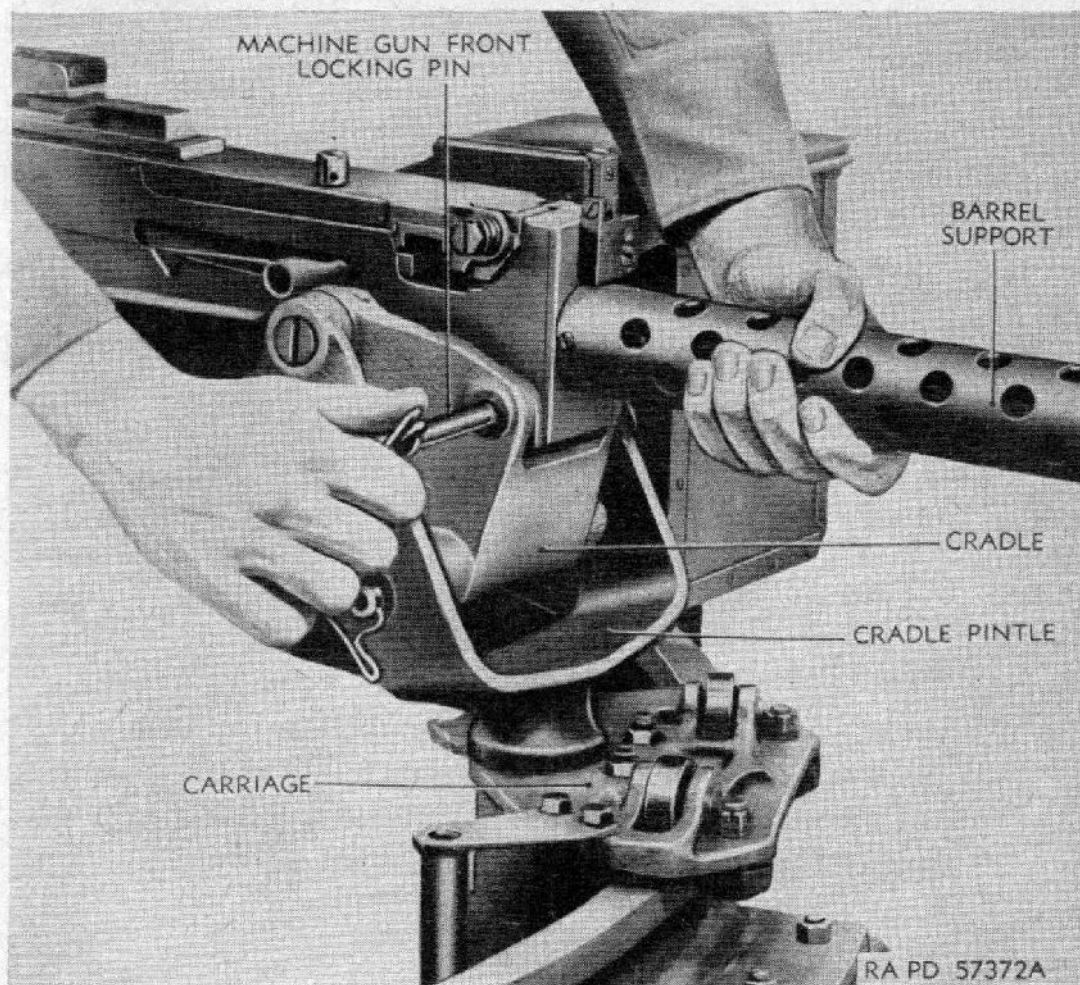

Figure 173. Securing front of machine gun to mount.
- (3) Place the machine gun on the cradle so that the front mounting holes of the machine gun and of the cradle aline. Secure the machine gun by inserting the machine gun front locking pin (fig. 173).
- (4) Swing the pivoted machine gun rear spacer forward, so that the rear mounting holes of the machine gun aline with the
- (1) Check to make certain that gun is not loaded.
- (2) Supporting the gun at the barrel support (do not hold by barrel), remove the machine gun front locking pin (fig. 173).
- (3) Remove the machine gun rear locking pin and lift gun from cradle.